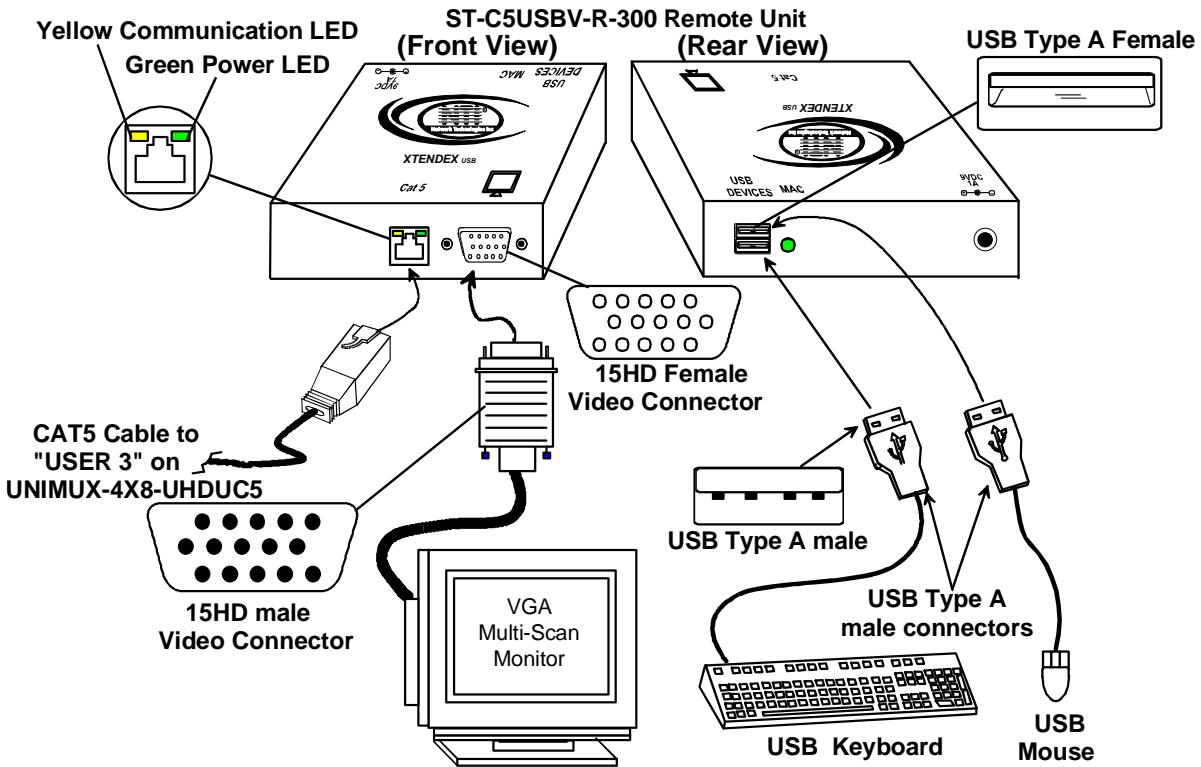

Figure 10- Connect monitor and devices to ST-C5USBV-R-300
2. Connect the monitor cable to the 15HD female VIDEO port on the ST-C5USBV-R-300. (See Figure 10)
6. Turn ON the monitor. The monitor will display an image coming from the CPU that User 3 is connected to via the UNIMUX switch. The yellow communication LED on the Remote Unit (see Figure 10) should blink indicating there is proper communication with the UNIMUX.